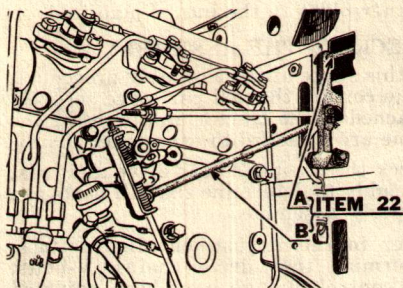

Figure 19 Engine Control Links
CONNECTING ENGINE CONTROLS AND REPLACING TRACTOR PARTS**ITEM 22 - Figure 19****ENGINE CONTROL LINKS**
Two links are to be connected between the levers on the control shaft and to the compression release and speed control mechanism for the engine. See (Item 22), Figure 19.
Connect compression release link (A), Figure 19, between the lever on the dash panel and the short lever located at the left end of the control shaft. The bent end of the link is turned toward the tractor engine. Adjust the yoke end connection on this link to provide a suitable operating position for the hand control lever at the right side of the main frame.
Connect speed control link (B), Figure 19, between the long arm of the double lever mounted on the control shaft and the friction control mechanism for the governor. Place the bent end of the link pointing outward. Adjust the link for a suitable engine speed range by setting the position of the yoke end connection on the link. Set the link so the hand control lever will shut the engine "Off" when hand lever is pulled back.